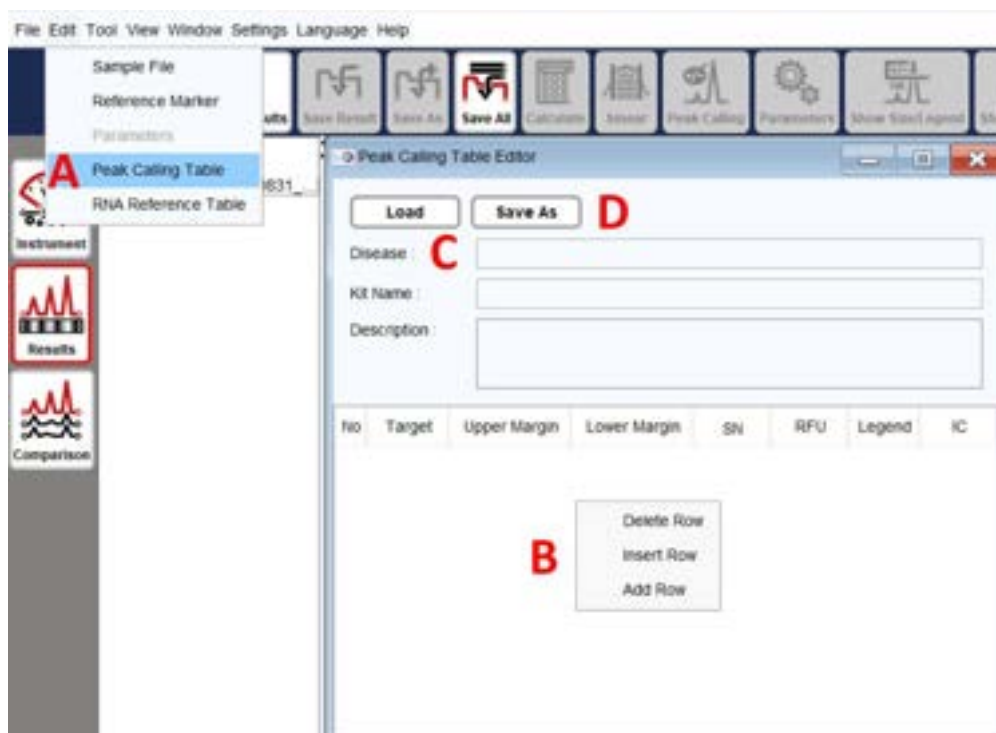

Figure 51 Peak Calling Table
1. Click on **Edit** → **Peak Calling Table** to open the Peak Calling Table Editor (Figure 51 A).
2. Right-click and select **Add Row** to add a new panel (Figure 51 B).
3. Set up the new table by entering criteria in the respective columns (Figure 51 C) and save it as a new file (Figure 51 D) in the default folder.